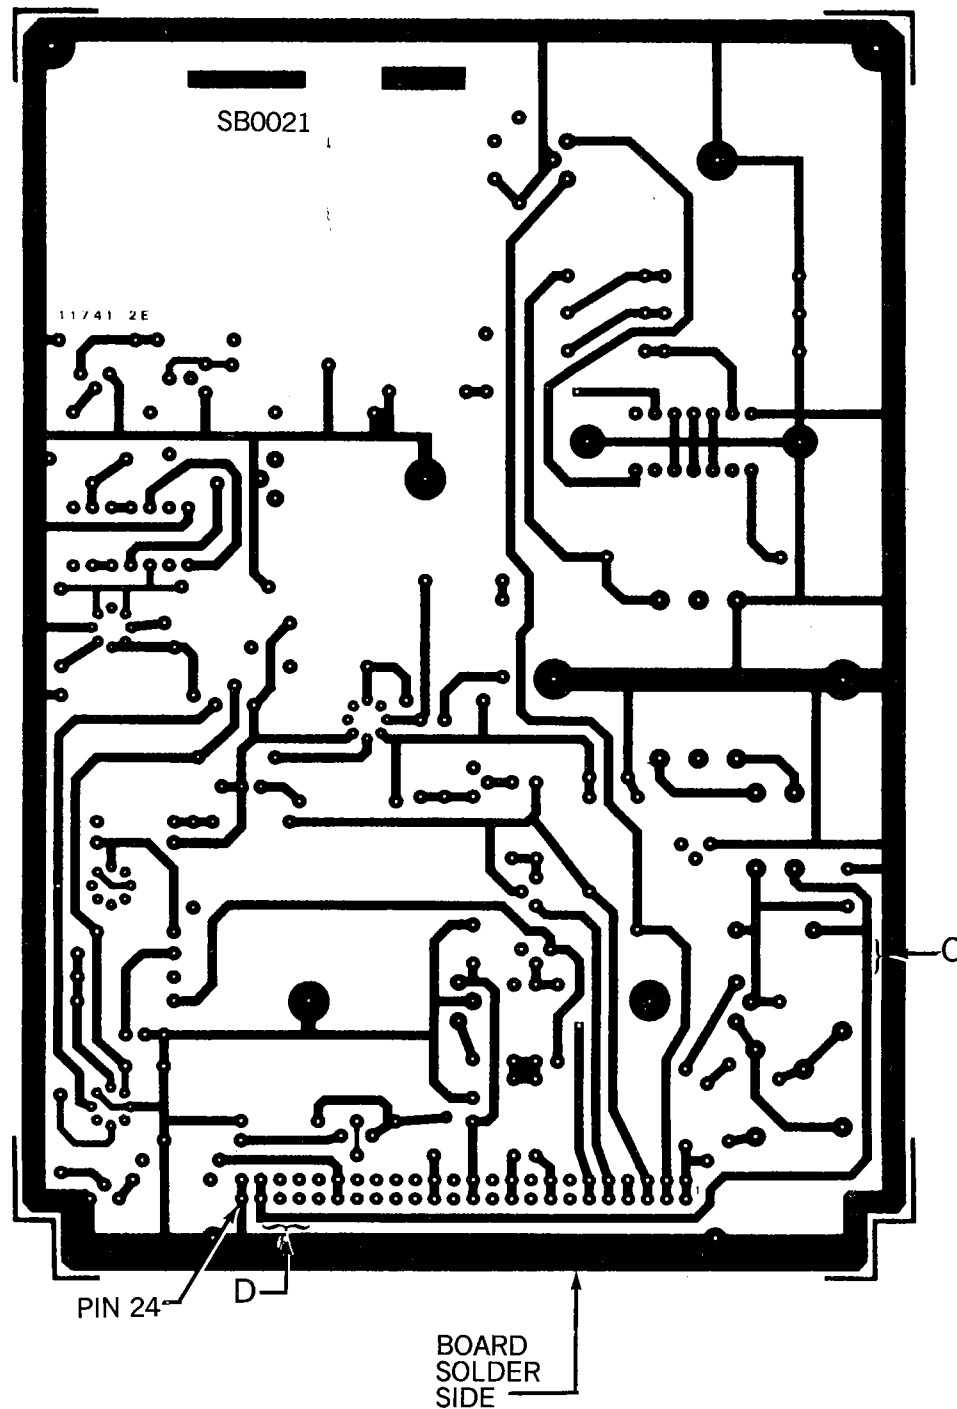
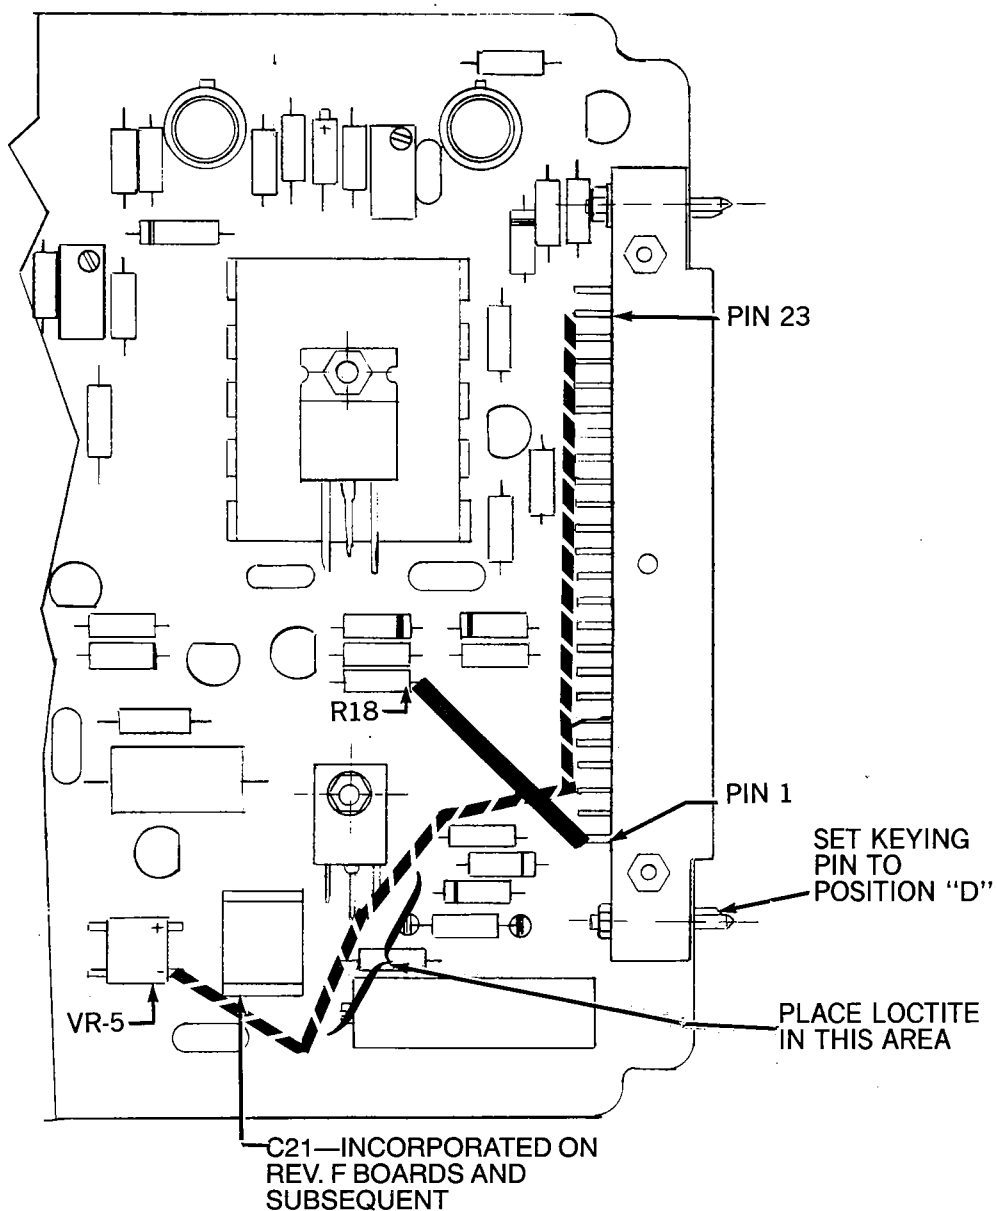

Figure 2
Figure 3
- (b) Connect negative lead to Pin 24 (ground). See Figure 2.
- (6) On solder side of board, cut tracks at locations C and D, removing at least 0.050 inch of track at each location. See Figure 2.
- (8) Solder a 4 inch, 22 gage bus wire covered with teflon sleeving between Pin 23 and negative terminal on VR-5. Trim and dress wire to look neat. See Figure 3.
- (9) Solder a 1.25 inch 22 gage bus wire covered with teflon sleeving between Pin 1 on connector and resistor R18. Trim and dress wire to look neat. See Figure 3.
- (10) Perform continuity check between the following and verify that continuity is present.
- (11) Touch up conformal coating as necessary in modified area with Hysol PC 28 or equivalent.
- (12) Tack wires down with Loctite Tak-pak or equivalent in areas shown in Figure 3.
- (13) Install keying pin in connector and set pin to position 'D'.
- (14) Mark "SB0021" on board with indelible ink under part number on solder side of board. See Figure 2.
- (15) Install board in Slot J2 of OEU and reinstall top cover.
- (16) Functional check battery charging card per Report 1060 Appendix B, 1096 or 1113 as applicable by performing the following tests.